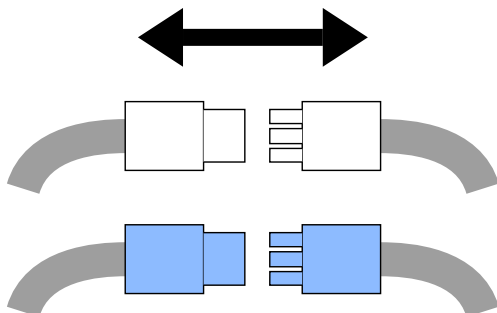

Figure 1
- Then separately disconnect the quick connectors (blue and white) in the cabling. See Figure 1.